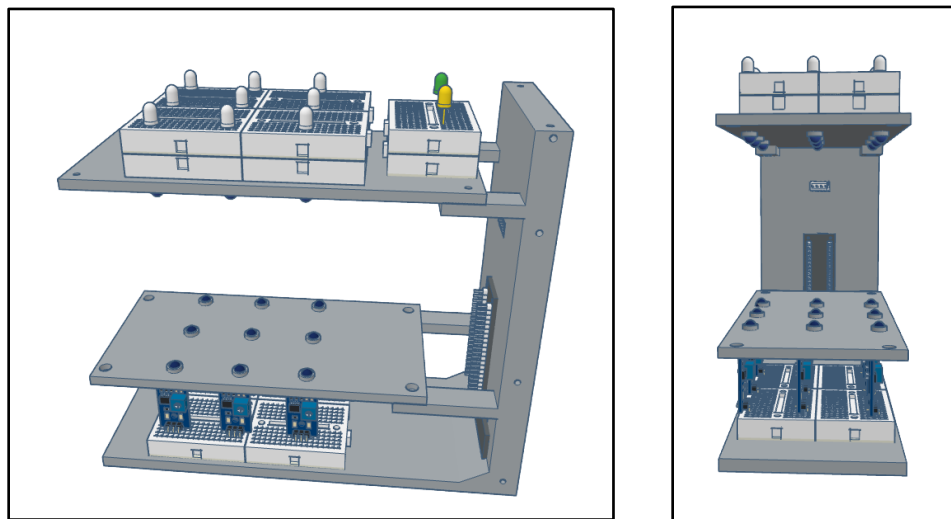

Figure 21. Attaching LEDs onto part P3.
- b. Place breadboards containing LEDs onto P3 (**Fig. 21**; wiring is not shown here for ease of visualization). **Follow steps c) and d) before completing b).*